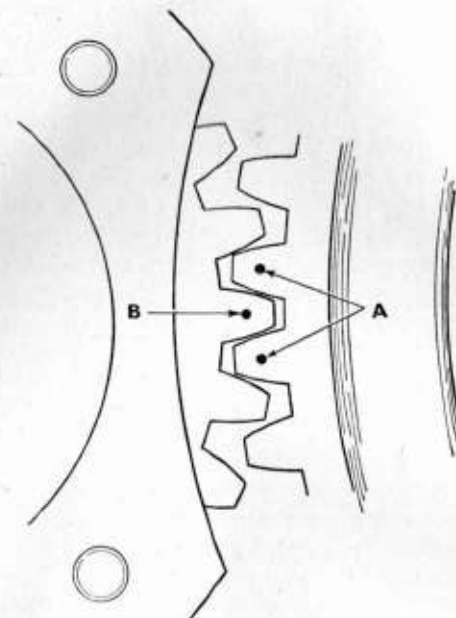

Fig. 5
- (d) Rotate the Engine until one of the Holes in the Camshaft Gearwheel lines up with the Thrust Plate Setscrews (A). Slacken off these two Setscrews sufficiently to allow the Thrust Plate (B) to drop to the full extent of its Slots.
- (e) Hold the Tappets up in the "maximum lift" position; this can be done by winding a rubber band or piece of string (C) round the Shank.
49. To Replace the Camshaft and Time the Engine (Fig. 5).